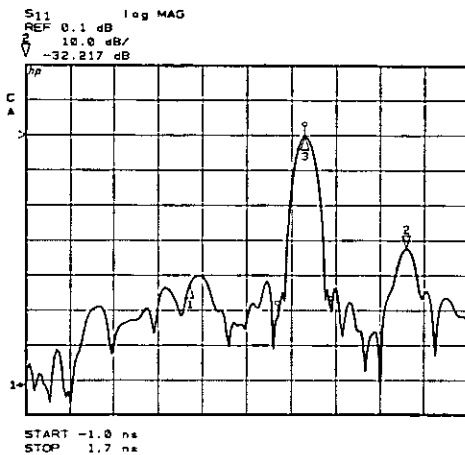

Figure 3. Time Domain Response of Open at the End of an Airline
4. Gating — Use time domain gating to correct the measured response of the open by isolating the reflection due to the open from the source match reflection and signal path leakage (directivity). Figure 3 shows the time domain response of the open at the end of an airline. Measure the gated phase response of the open at the end of an air-line and again solve for the capacitance function.